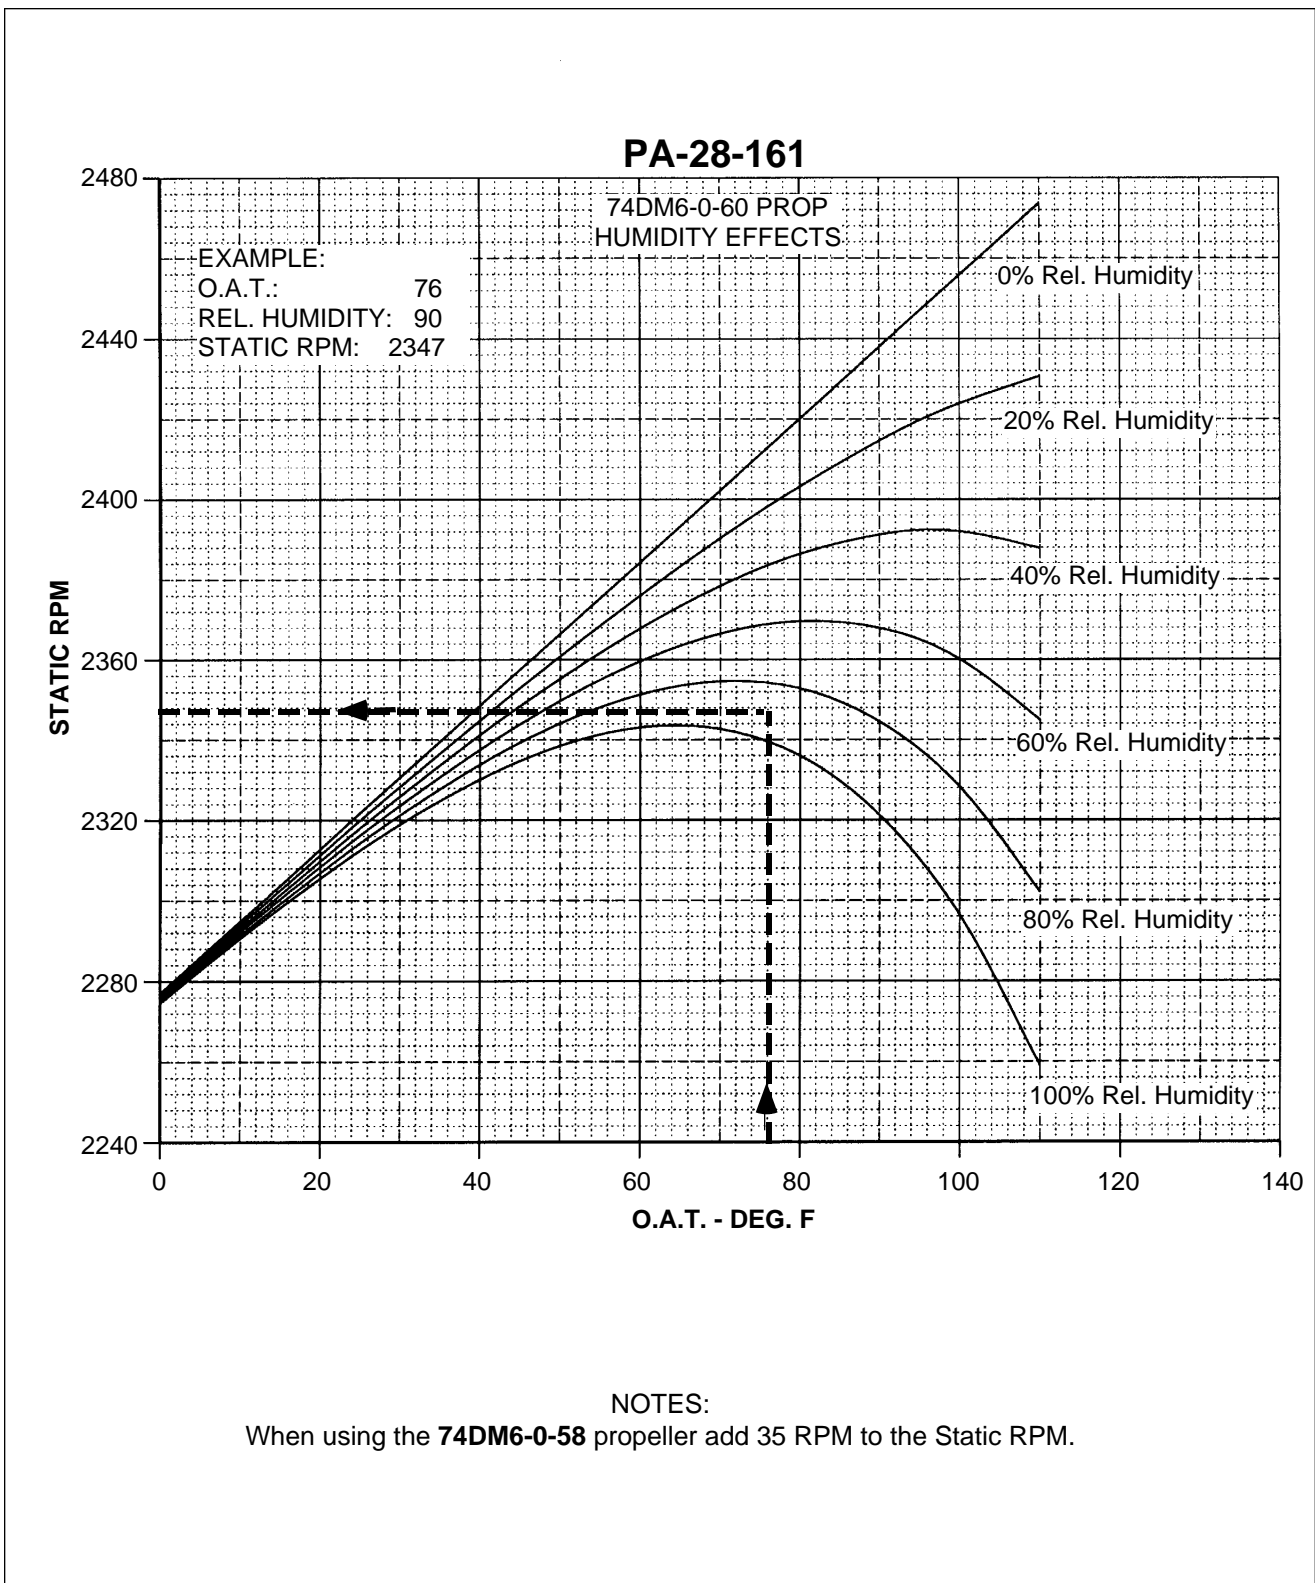
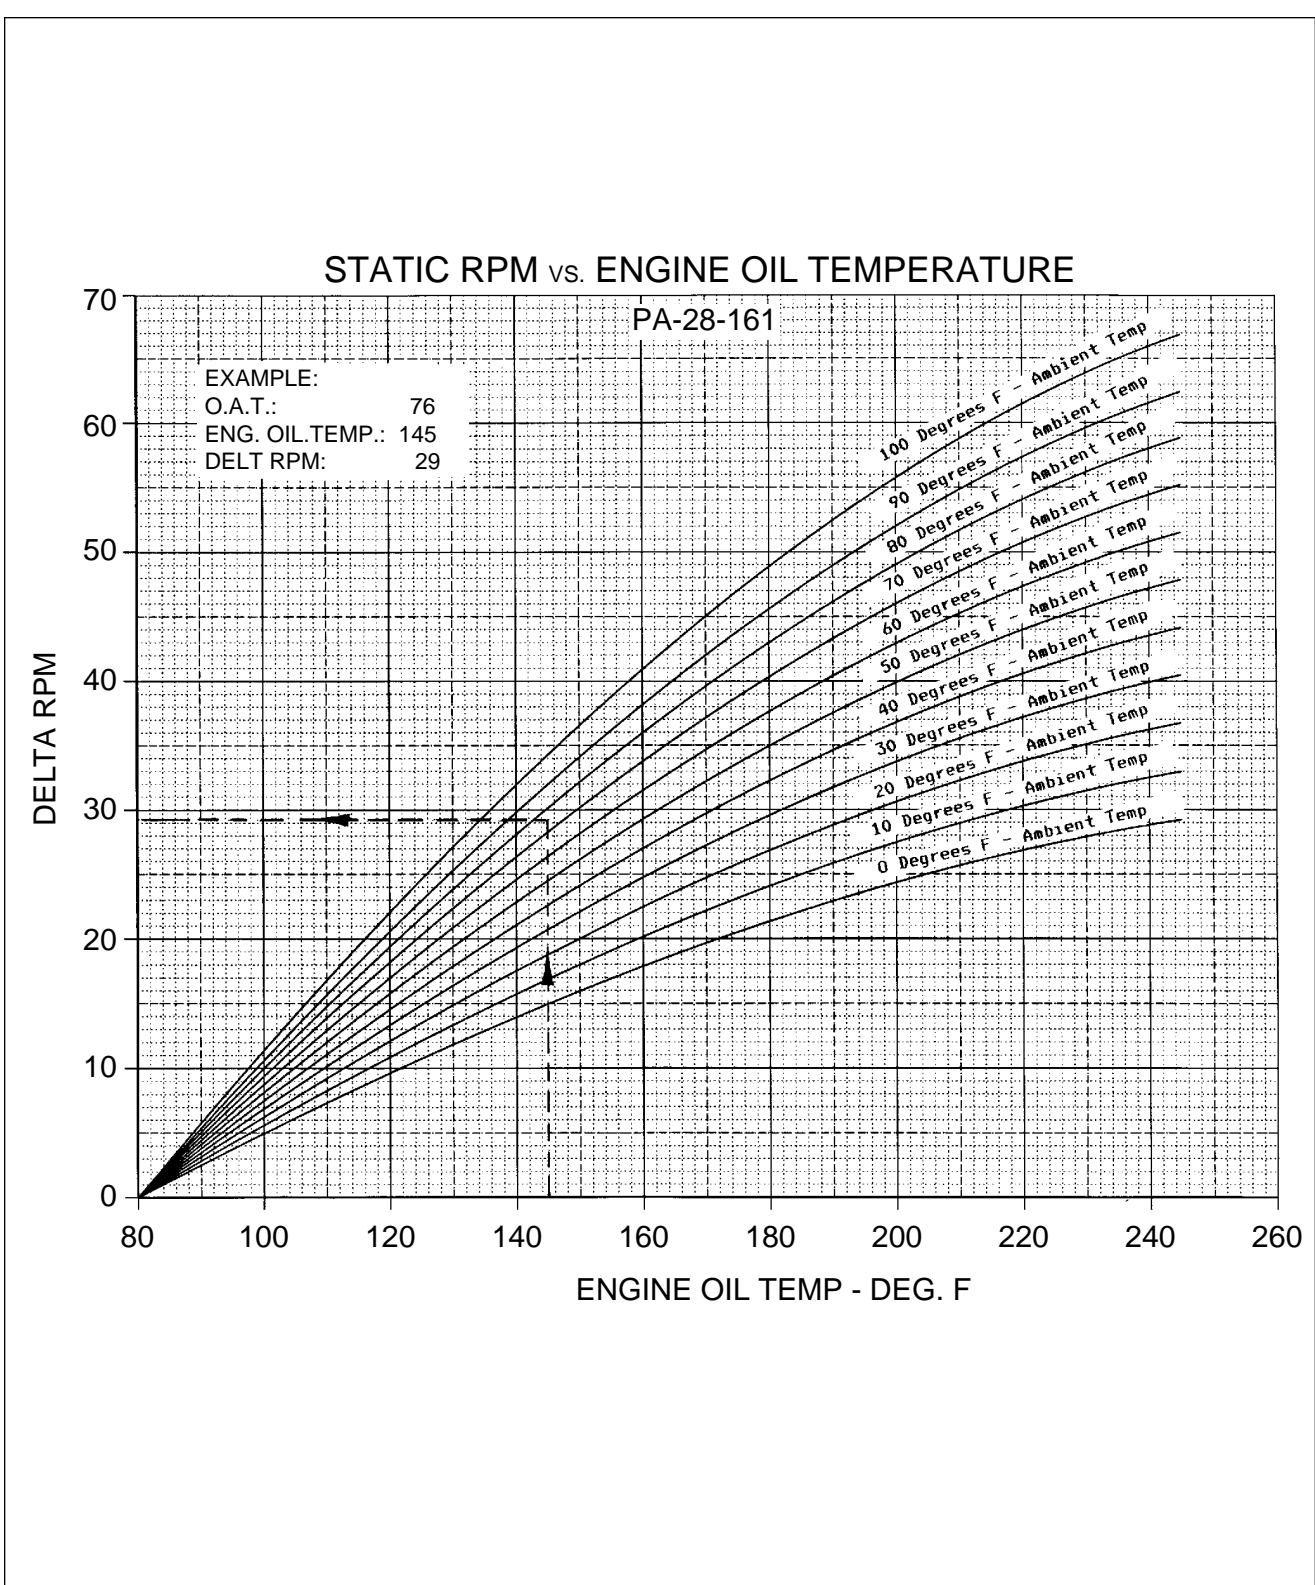

Figure 8-37. Static Rpm (SEA LEVEL ± 500' PRESSURE ALTITUDE ONLY)
Figure 8-38. Change in Static Rpm Vs. Engine Oil Temperature
- f. With OAT and relative humidity, read static rpm from Figure 8-37.
- g. With the oil temperature and OAT, read delta rpm from Figure 8-38.
- h. Subtract the delta rpm obtained from Figure 8-38, from the static rpm obtained from Figure 8-37.